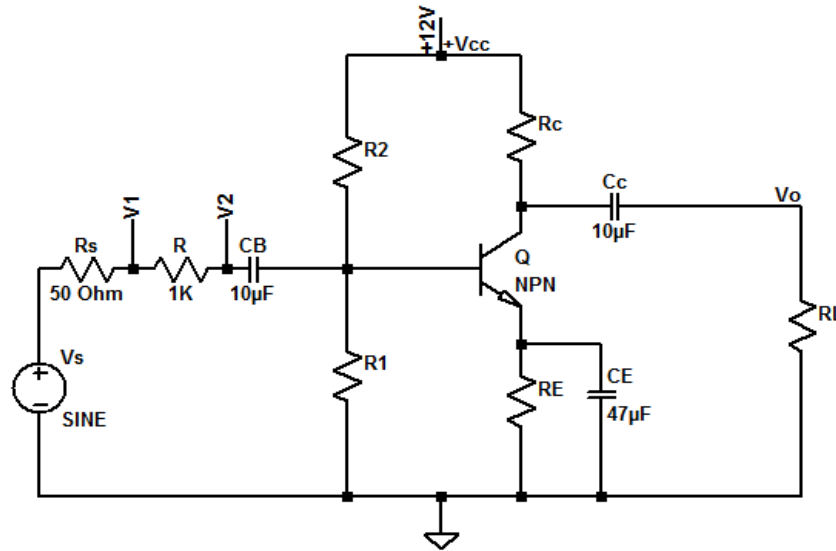

Figure 2. Input Impedance measurement of BJT amplifier
- Build the circuit as shown in Figure 2 for the measurement of input impedance. Reduce the input signal so that there is no distortion at the output. Keeping input signal frequency to be 20KHz measure V1 and V2 and calculate input impedance as $V_2/((V_1-V_2)/1K\Omega)$.